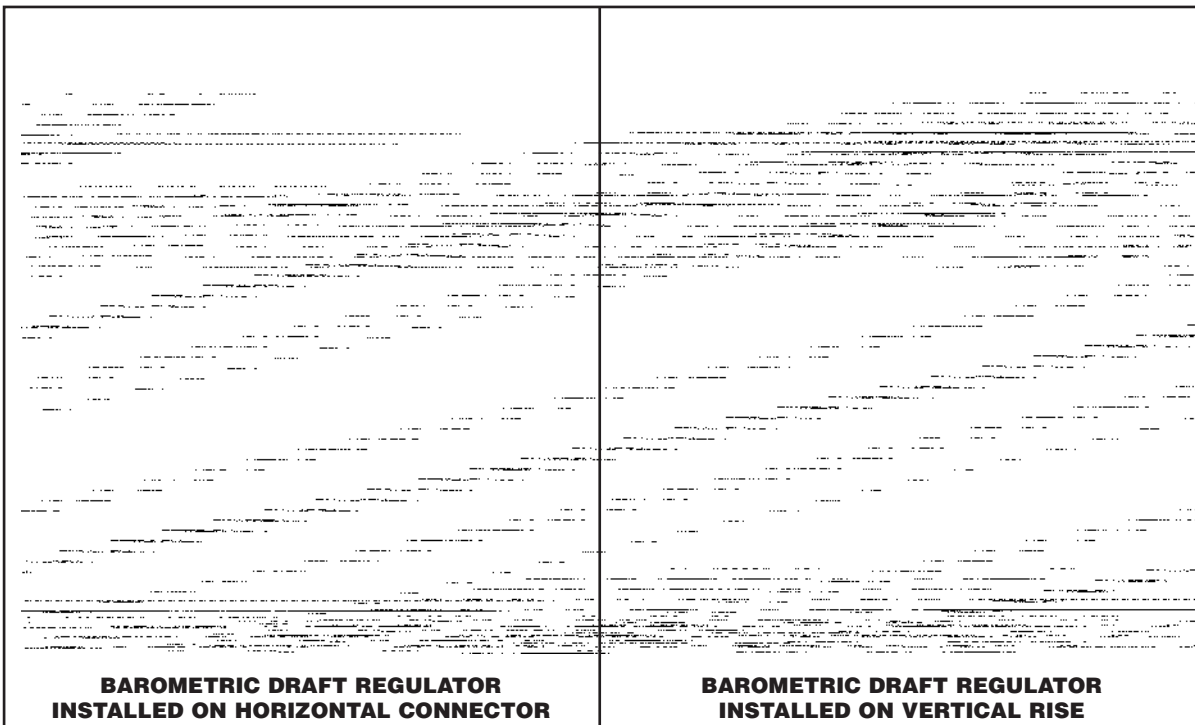

Figure 3. Barometric Draft Regulator
- G. Flue Connection: Connect flue pipe between top of boiler and chimney. Horizontal sections of flue pipe must be pitched upward to the chimney at least 1/4" per foot. Flue must be inserted into, but not extend beyond, the inside wall of the chimney flue. Install draft regulator in flue pipe, as shown in figure 3.